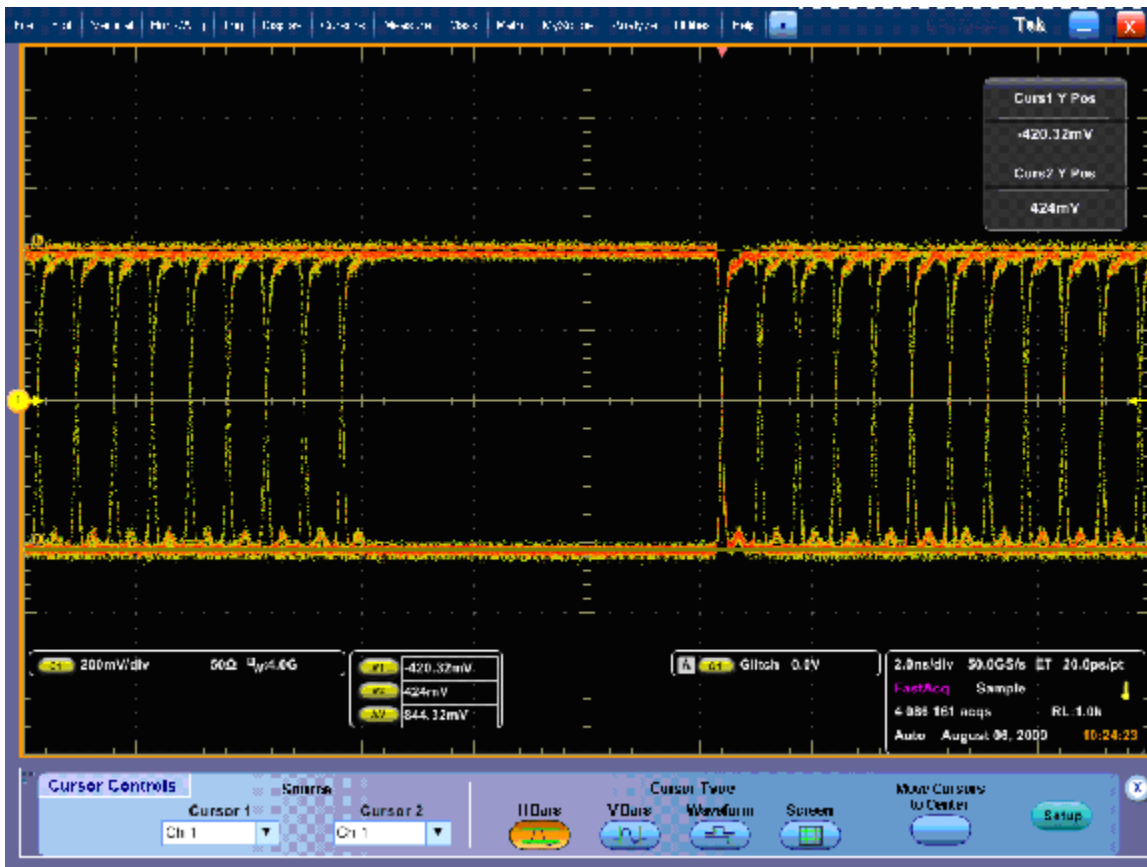

Figure 2: Serial Output at 1.5 Gb/s, using Glitch Trigger mode
7. Check the serial signal amplitude, using the 7 ns wide region without transitions. The amplitude should be very similar to that noted in step 5. Outside of the 7 ns region, check that the eye is open between transitions. (See Figure 2.)